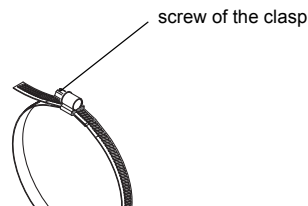

Fig. 8.12: Band clamp clasp with tension strap
- Place the tension strap around the pipe and insert it into the clasp (see Fig. 8.12).